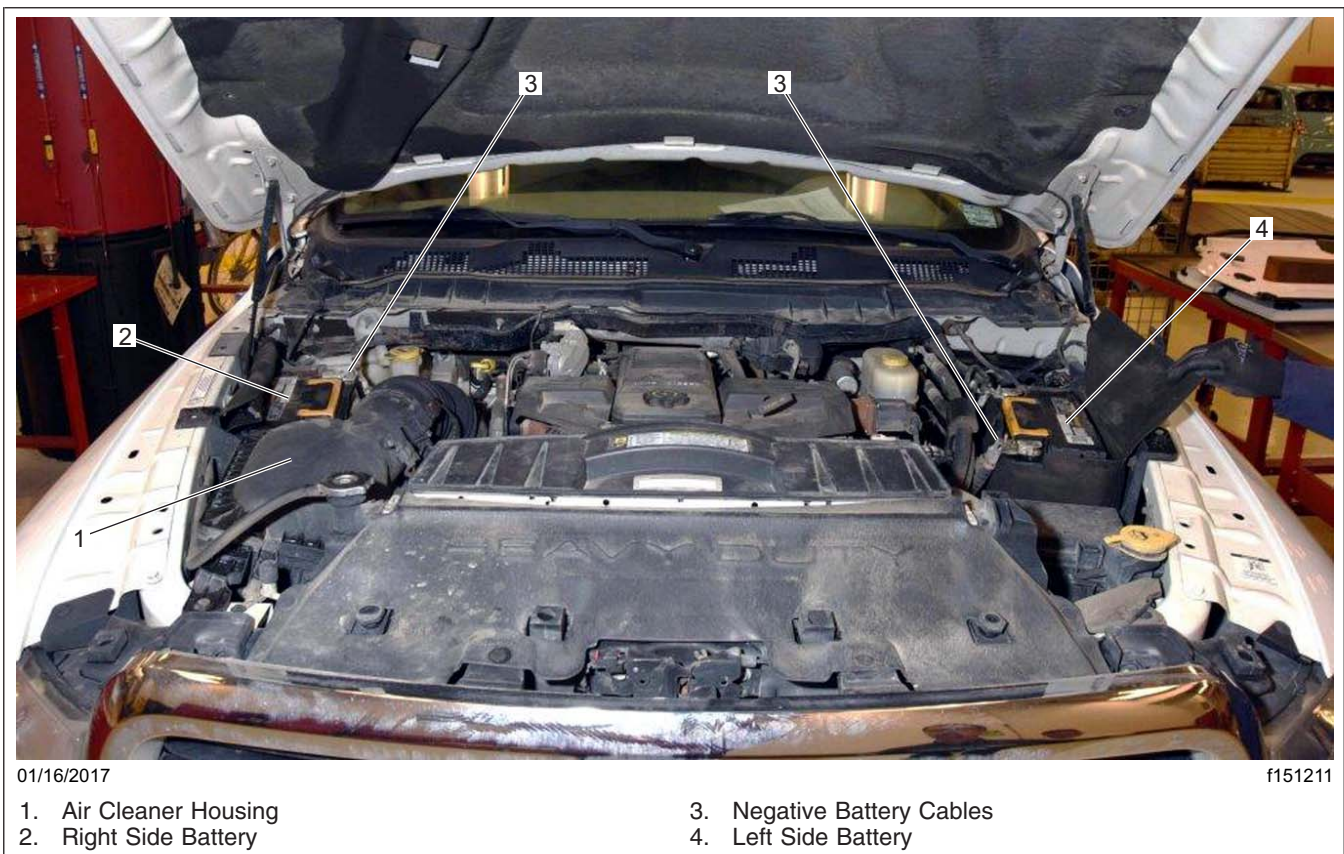

Fig. 1, Battery and Negative Cable Locations
4. Disconnect both negative battery cables. See Fig. 1.